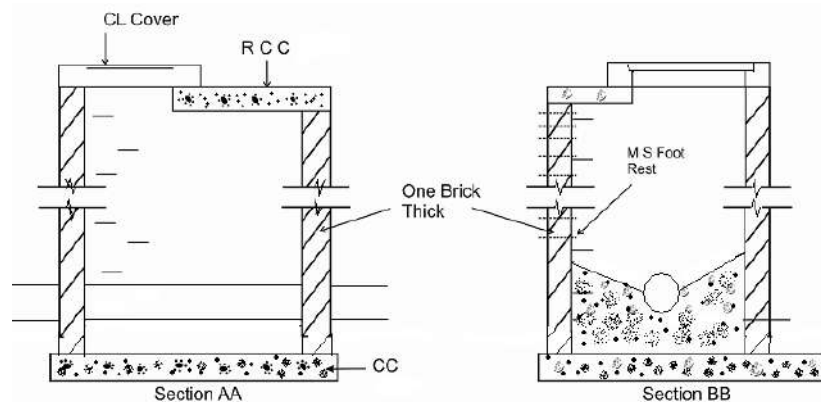

Figure 8.2 Rectangular manhole for depth 0.9 m to 2.5 m
**Normal Manholes:** These manholes are 1.5 m deep with dimensions 1.0 m x 1.0 m square or rectangular with 1.2 m x 0.9 m (Figure 8.2). These are provided with heavy cover at its top to support the anticipated traffic load.